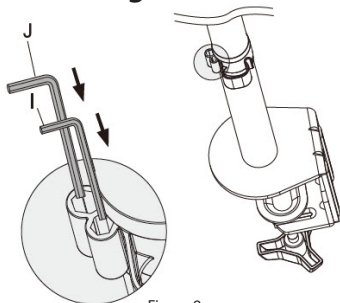

Figure 9
- Slide the **5 mm Hex Key (I)** and the **6 mm Hex Key (J)** into the **Tool Slots**, located on the **Cable Management Clip(s) (D)**. (Figure 9)